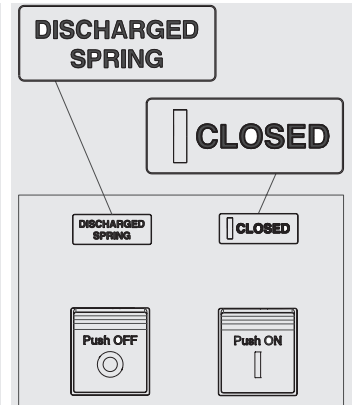

Figure 50
3. Circuit-breaker closed with springs discharged (see Figure 50).